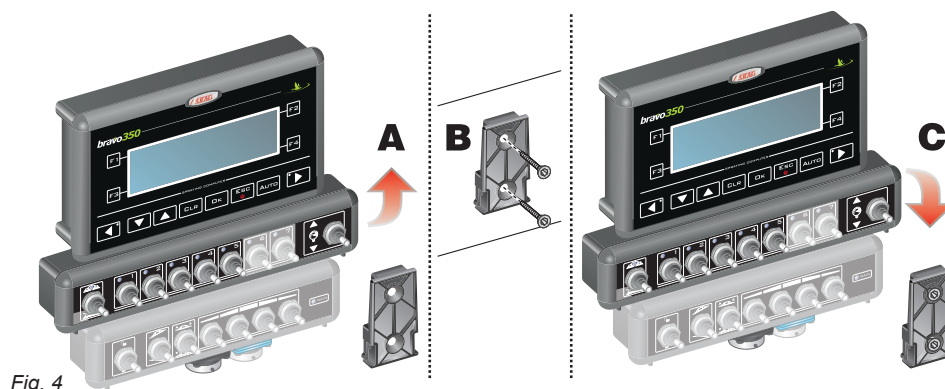

Fig. 4
The monitor must be mounted after having fixed the bracket at the desired location (the previous paragraph shows the bracket drilling template). The bracket must be slid out of the monitor seat (A, Fig. 4) and fixed using the supplied screws (B).
**Make sure the bracket is securely mounted, fit the monitor on it, and push it until it locks in place (C).**